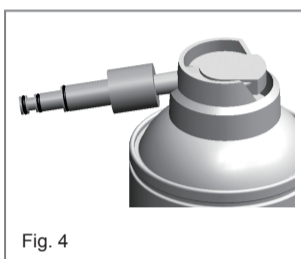
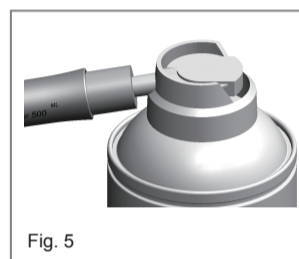

Fig. 4
Fig. 5
2. To lubricate 500⁺ series handpiece, put Spray Nozzle into nozzle of the lubrication oil can (Fig. 4). Connect handpiece with the nozzle (Fig. 5) and inject lubrication oil for 2~3 seconds.